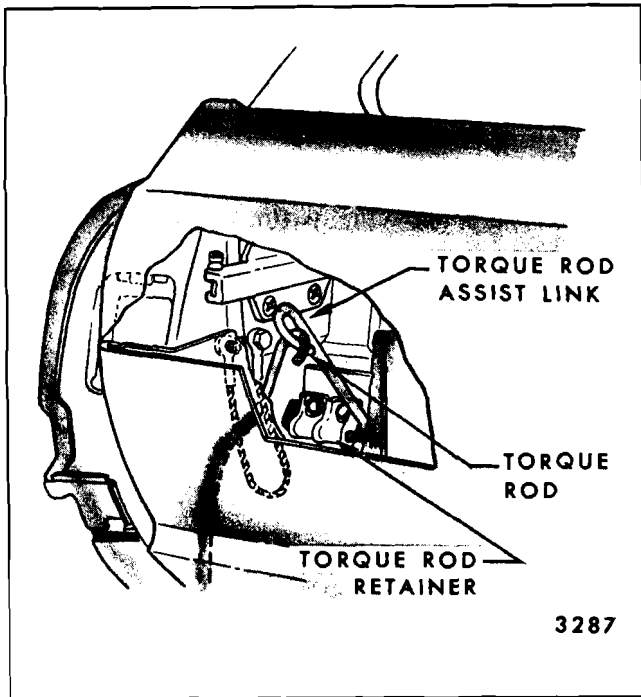

Fig. 9-7—Dual Gate - Torque Rod to Body Attachment
1. Open tail gate slightly to gate position and remove two torque rod to body retainer attaching bolts (Fig. 9-7). Disconnect torque rod assist link from torque rod and close tail gate.
4. Remove torque rod assist link. (Refer to Fig. 9-7).